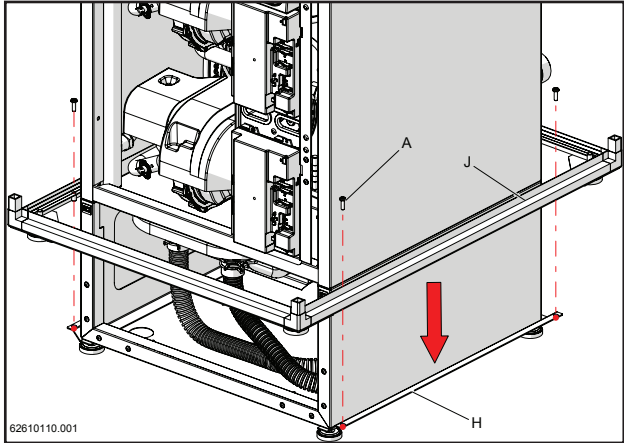
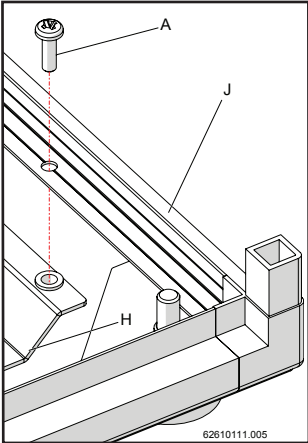

Figure 15-5
Figure 15-6
- 3.- Insert the lower framework "J" (figure 15-5) and attach it to rod "H" with the relative screws "A" in correspondence with the holes that are present (figure 15-6).